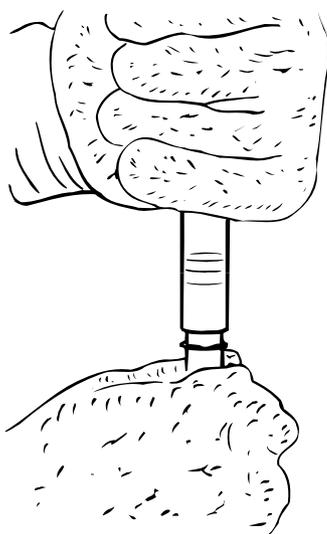

Figure 6 Removing the Sample Tube
10. When time is up, put on the heat-resistant gloves. Remove the first tube from the block and immediately pull off its sample tube using a downward, twisting motion (Figure 6) as opposed to a sideways motion. Remove the sample tube within 4 seconds of removing it from the block or suck-back of the sample will occur, which may cause low recoveries. Dispose of the sample tube and the hot solution left in it by dropping it into the sink or waste bucket.